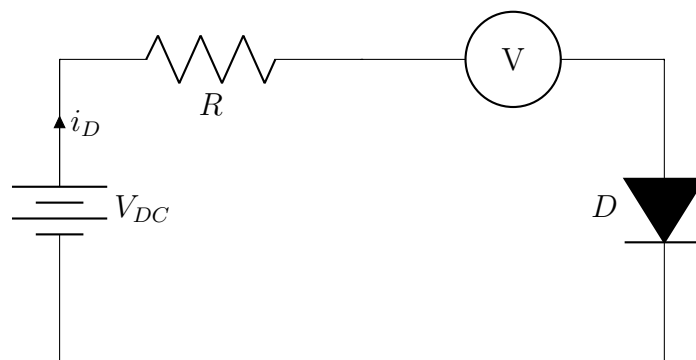

Figure 2: PN-Junction Diode Test Circuit
2. Build the circuit shown in Figure 2 using the E3631A Power Supply's +6 V source and the 34410A Digital Multimeter as an Ammeter with the diode connected in series. The maximum continuous current that the 1N4148 diode can conduct is 200 mA (see datasheet). An alternative way to protect the diode from excessive currents is to use a series resistor. Because the diode current depends exponentially on its bias voltage, if the power-supply voltage were inadvertently set to its highest voltage level (6 V for the 6 V supply used in this experiment), an excessive current could flow through the diode which would damage it permanently. The resistor prevents this condition from taking place.
1. Define all parameters and variables in Equation (2).
2. Plot the $I_D(V_{PN})$ characteristics obtained using LabVIEW on a log-linear plot. Note that the term ‘log-linear’ is used to describe a semi-log plot with a logarithmic scale on the y-axis and a linear scale on the x-axis. The y-axis label should read ‘1N4148 Diode Current, I_D (A)’ and the x-axis label should read ‘Diode Voltage, V_{PN} (V).’ Make sure to have enough data points to generate a smooth curve. Use the measured value of V_{PN} (from your V_{PN} vs V plot) across the diode in this plot, i.e., do not assume that the voltages supplied by the power supply are those across the diode.
5. Comment on the values of I_S and γ that yield the best fit to the data. How do your experimental and varied values compare with those given in the diode manufacturer data sheets? (For R_s use Figure 2, curve 2, on the Vishay datasheet. I_S can be found under reverse current, and γ should be about 2.3.)